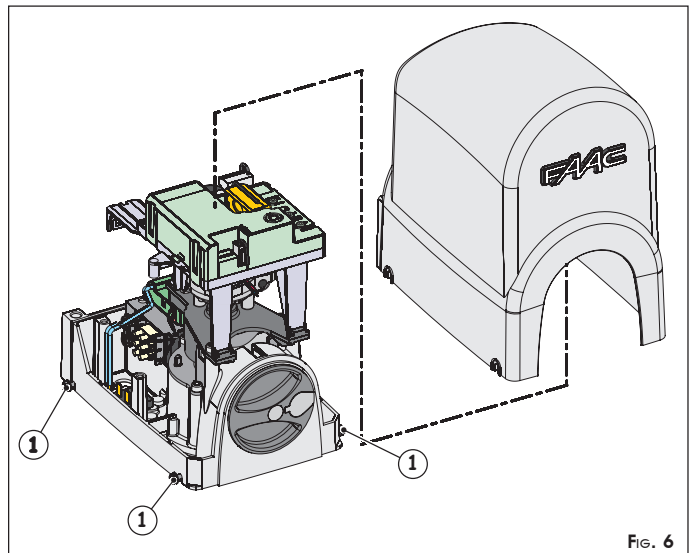

FIG. 6
- ① Loosen by about 1/2 turn the four securing screws of the upper housing (Fig.6 ref.①) and withdraw the housing. Set the operator for manual operation, see paragraph 7.